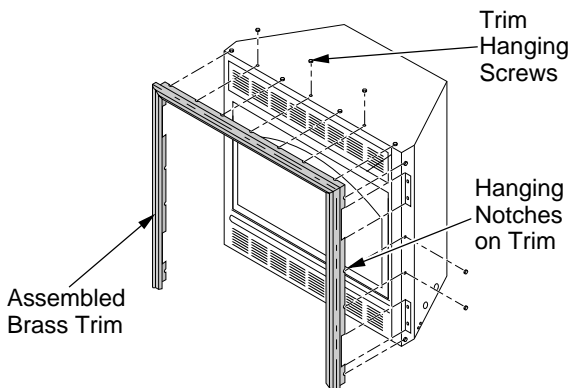

Figure 7 - Attaching Brass Trim to Fireplace (VYGF33PRA Shown)
8. Tighten trim hanging screws (#10 x 6.25 shoulder) into holes in cabinets. Place the assembled trim onto fireplace cabinet. Align hanging notches on trim with hanging screws on side of fireplace (see Figure 7). Push trim firmly into place, sliding hanging notches over hanging screws.
10. Install brass trim after final finishing and/or painting of wall (see Figure 7, page 8).
16. Install brass trim after final finishing and/or painting of wall (see Figure 7, page 8).